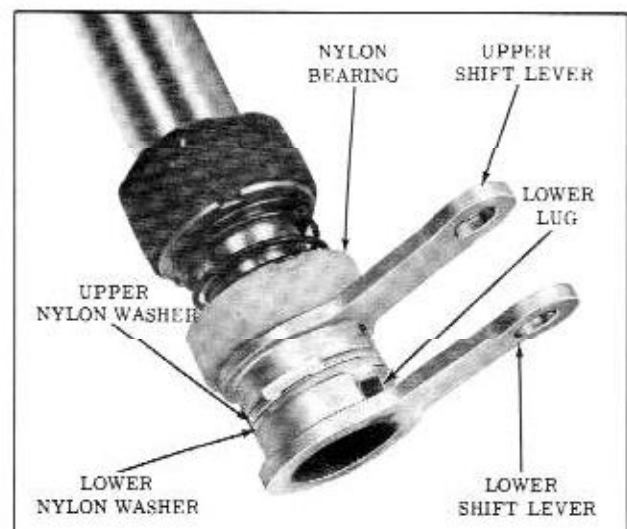

Fig. 4-21 Lever to Shift Tube Position
5. Slide one nylon washer onto the shift tube engaging the lug in the notch on the lever flange. (Fig. 4-21)
6. Slide the second nylon washer onto the shift tube with the locating lug toward the bottom of the column. (Fig. 4-21)